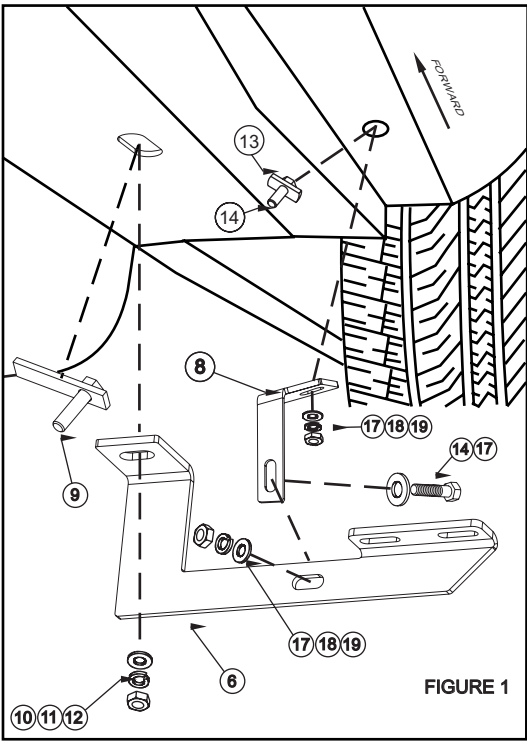

FIGURE 1
- STEP 2. Remove rubber plugs from rear mounting locations. Thread 3/8-16 x 1.25" hex head bolt through bridge weld nut. Insert assembled 3/8" bolt plate and 1/2" bolt plate as shown. **SEE FIGURE 1.**
- STEP 4. Attach support brace to the rear brackets using 3/8" fasteners as shown. **SEE FIGURE 1.**